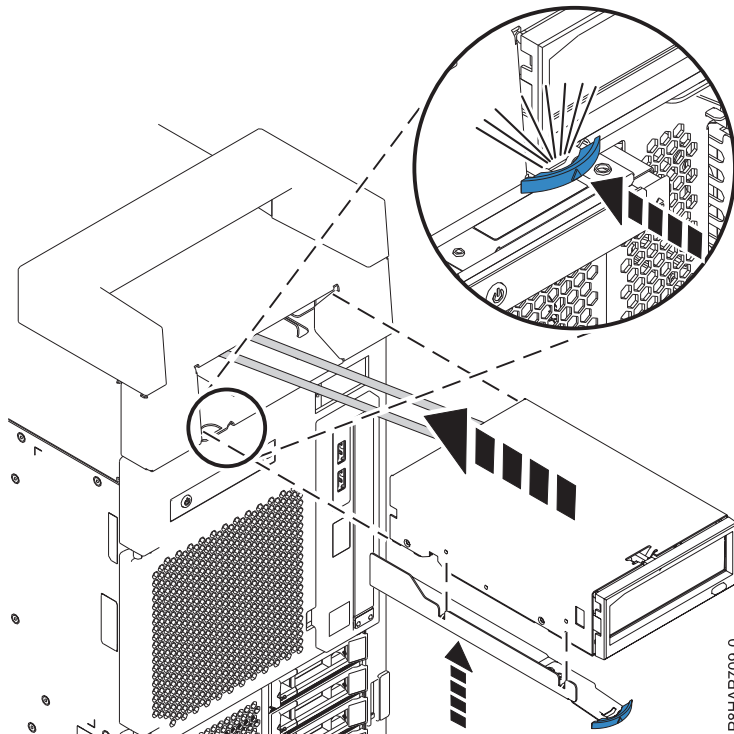

Figure 64. Installing the RDX internal docking station
- Slide the device into the system and push the latch in the direction that is shown until it locks into place. See Figure 64.